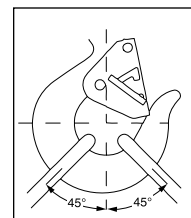

Figure 5
- When placing two (2) sling legs in hook, make sure the angle from the vertical to the outermost leg is not greater than 45 degrees, and the included angle between the legs does not exceed 90 degrees\* (See Figure 5).